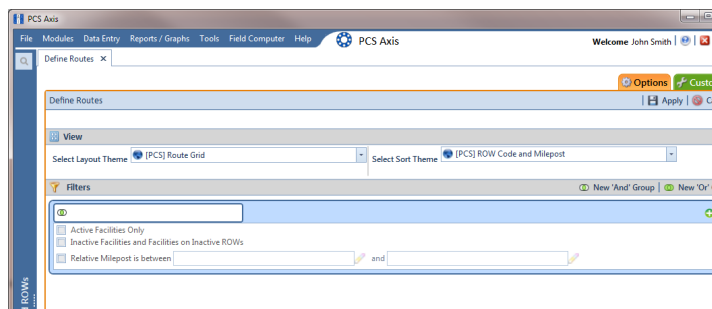

Figure 8-2. Options
- 4 Click the **Options** tab  to open the options page (Figure 8-2).